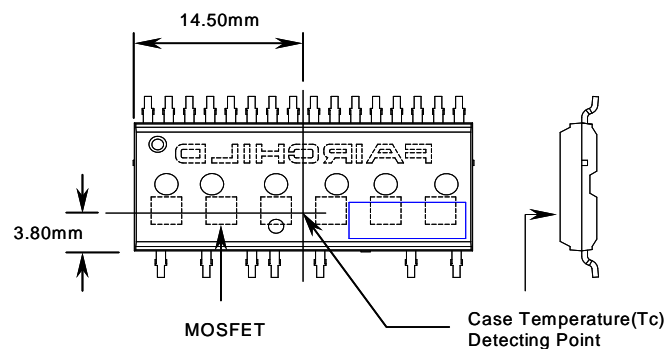

Figure 3. Case Temperature Measurement
- Source terminal of each low-side MOSFET is not connected to supply ground or bias voltage ground inside Motion SPM® 5 product. External connections should be made as indicated in Figure 3.